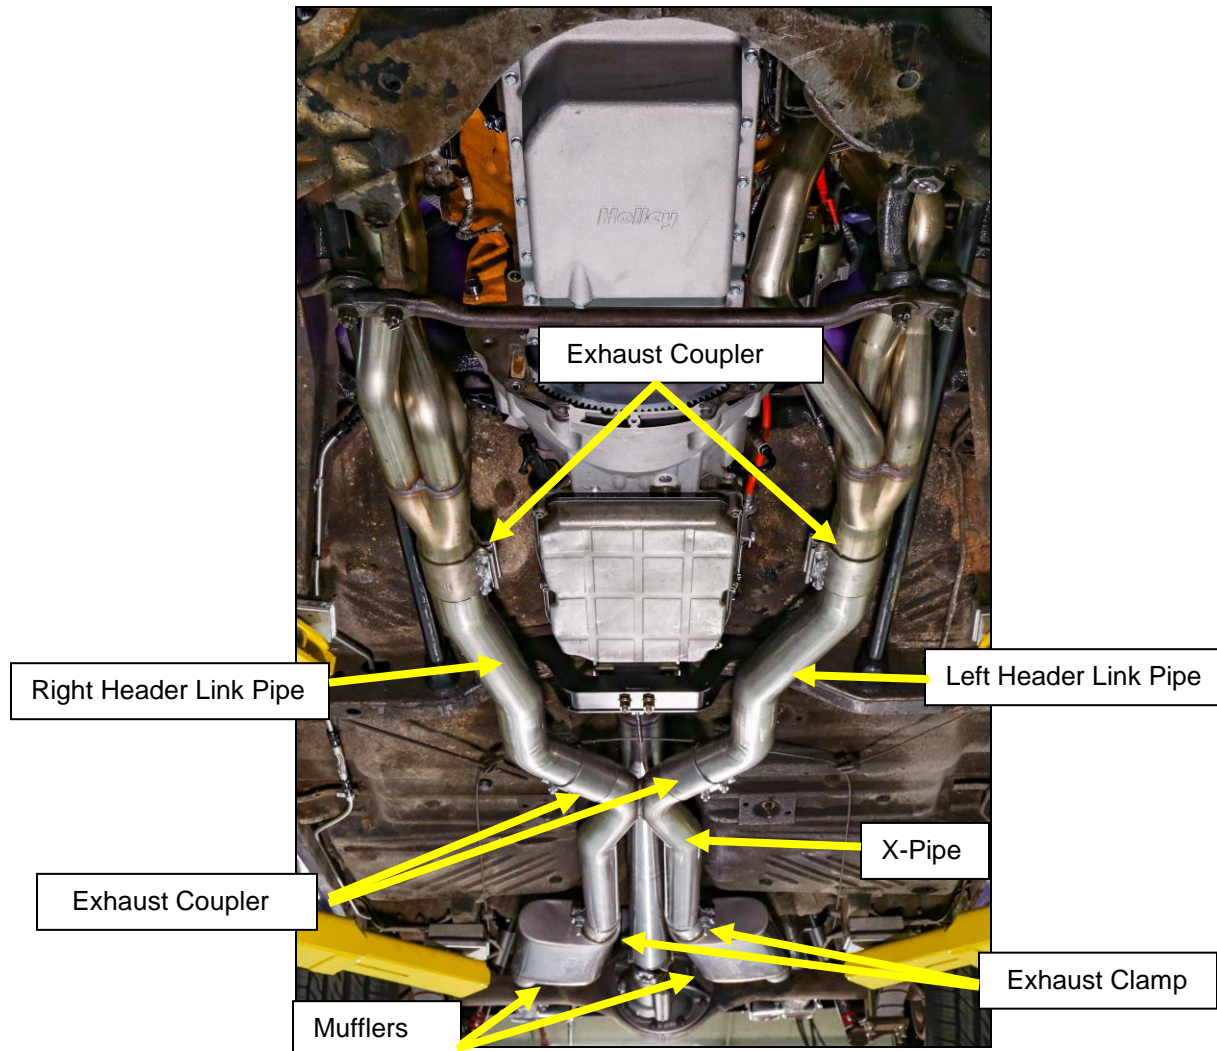

Figure 1
3. Align the 3" exhaust coupler with a 50-50 split over the header collector and the header link pipe and tighten the coupler to allow for adjustment of the link pipe (**Figure 1**).
13. Install the mufflers onto the X-pipe outlet (**Figure 1**).